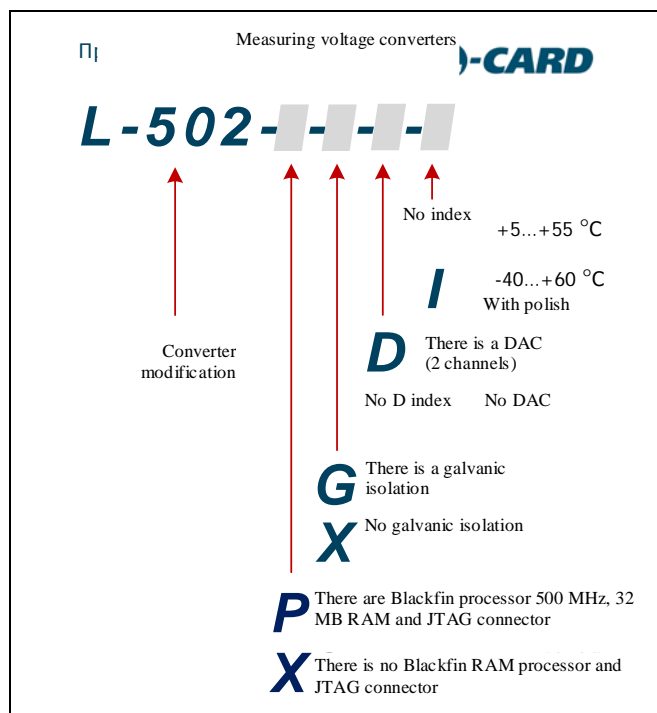

Fig. 1-1. Symbol system for L-502 module
The above "optional" is reflected in the **L-502** module designation system on fig. 1-1.
The new family of **L-502** in its overall technical characteristics is the development of the line **L-780 (M)**, **L-783 (M)**, **L-791** at a higher technological level. There is considerable compatibility of **L-502** in the type and purpose of the contacts of signal connectors, but, unfortunately, there is no software compatibility with them. The **L-502** module is more versatile in its capabilities as it practically covers the range of tasks that was solved earlier within the framework of the 700th family, in addition, it offers fundamentally new opportunities. A comparison of the technical characteristics of the **L-502** module with its predecessors of the 700th family is shown in table 1-1. The following conventions are adopted in the table, which are consistent with the versions of modifications L-502 in accordance with fig. 1-1: